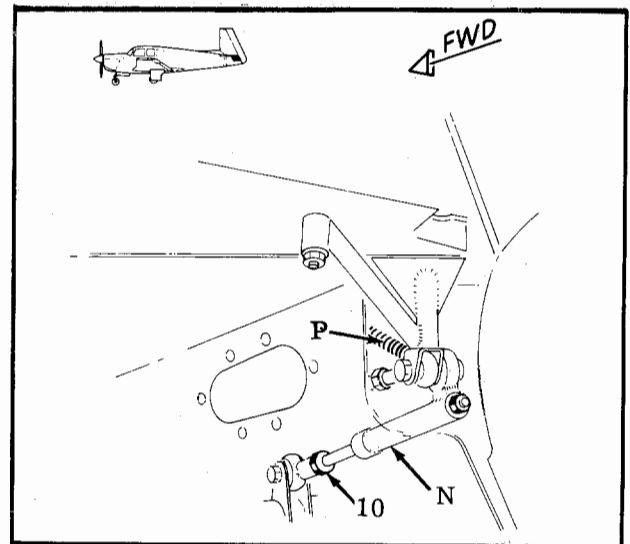

Figure 6-5. Trim Assist Bungee Rigging.
b. Adjust trim assist bungees (N), Figure 6-5, at rod-end bearing (10) for elevator up angle of $19^{\circ}+1/2^{\circ}$ (1968 Models), $10^{\circ}+1^{\circ}$ (1969 Models & on).
b. Adjust trim assist bungees (N), Figure 6-5, at rod-end bearing (10) for elevator up angle of $19^{\circ}+1^{\circ}$
NOTE: Rig trim assist bungees before installation of elevator extension springs (P), Figure 6-5, on M20F, G & J models. Elevator extension springs are not used on M20C & E models.
c. Install elevator extension springs (P), Fig. 6-5, (M20F, G & J models only)